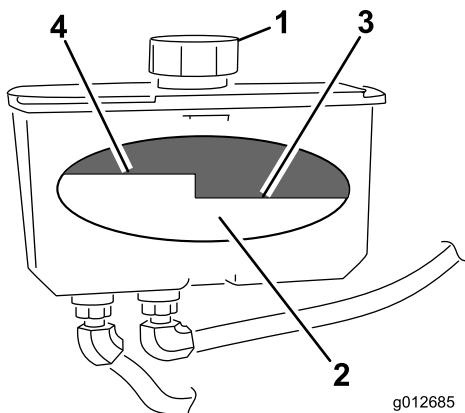

Figure 71
4. Clean area around cap and filler neck of hydraulic tank (Figure 71).
5. Remove cap from filler neck. Look inside to check the fluid level in the reservoir. (Figure 71).